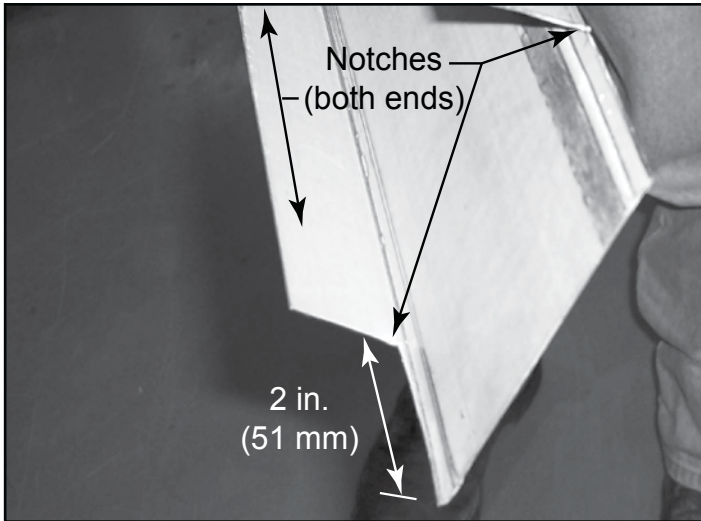

Figure 12.7 Notch the Metal Track
- Notch each end of the track 2 in. (51 mm). See Figure 12.7.